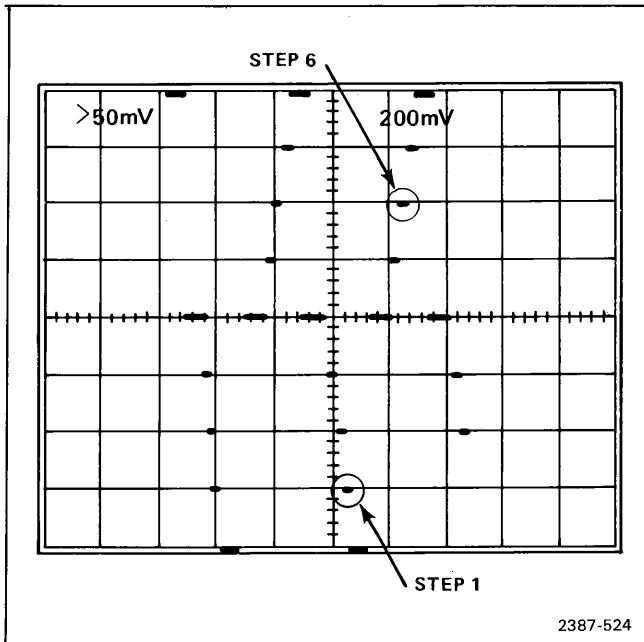

Fig. 5-23. Display of staircase waveform with its top and bottom steps set to the top and bottom graticule lines.
- Move the 7A16A Variable Volts/Div control to set the bottom staircase step at the bottom graticule line. See Figure 5-23.
- Use the 7A16A Position control to align the first stairstep with the first graticule line (see Fig. 5-23).
- CHECK**—that the sixth step aligns with the sixth graticule line, $+$ or $- 0.1$ division (See Fig. 5-23).